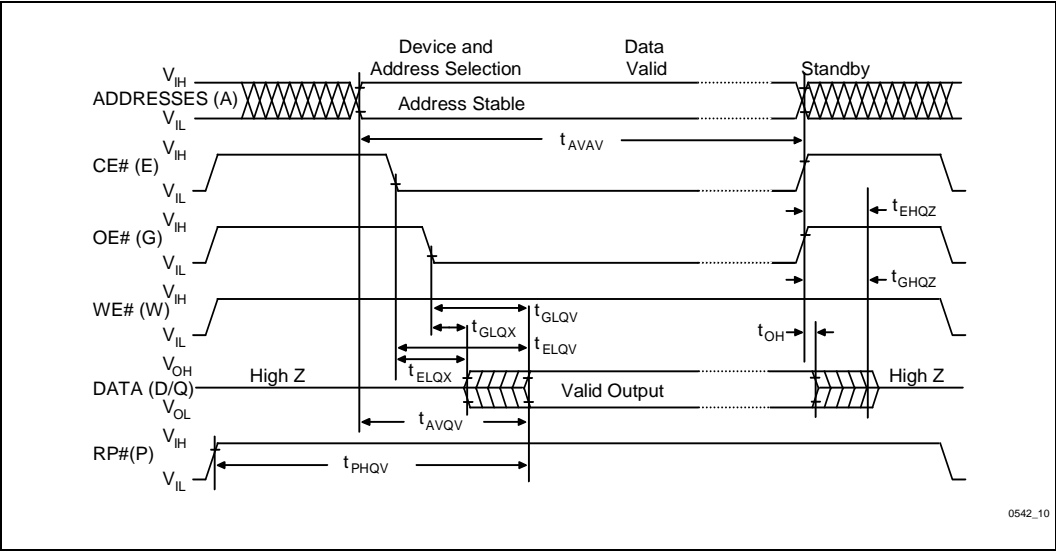

Figure 9. AC Waveforms for Read Operations
5. See 5V Standard Test Configuration. (Figure 9)